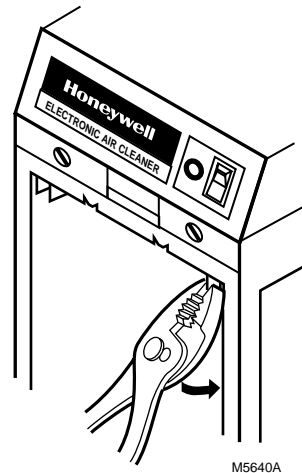

Fig. 14. Crimping prefilter guide.
- ❑ Crimp the end of the downstream (closest to the furnace) prefilter guide to prevent incorrect prefilter installation following cleaning. See Fig. 14.